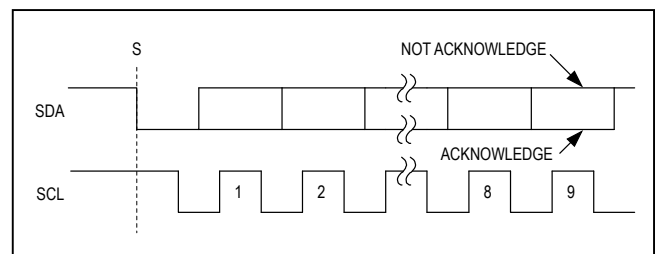

Figure 6. Acknowledge Bits
Data transfers are acknowledged with an acknowledge bit (A) or a not-acknowledge bit (A̅). Both the master and the MAX11606–MAX11611 (slave) generate acknowledge bits. To generate an acknowledge, the receiving device must pull SDA low before the rising edge of the acknowledge-related clock pulse (ninth pulse) and keep it low during the high period of the clock pulse (Figure 6). To generate a not-acknowledge, the receiver allows SDA to be pulled high before the rising edge of the acknowledge-related clock pulse and leaves SDA high during the high period of the clock pulse. Monitoring the acknowledge bits allows for detection of unsuccessful data transfers. An unsuccessful data transfer happens if a receiving device is busy or if a system fault has occurred. In the event of an unsuccessful data transfer, the bus master should reattempt communication at a later time.